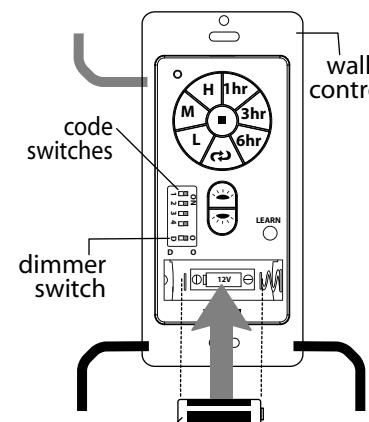

Fig. 7
- B. Use a small screwdriver or ballpoint pen to set code switches on the wall control by sliding them firmly to on or off / left or right position. (Do not use factory setting/position). (See Fig. 7)
- C. The dimmer switch (labeled D and O) has been pre-set to the "ON" position (D). If you do not wish to have dimming capability or are using bulbs that are not capable of being dimmed, please move the switch to the "OFF" position (O). (See Fig. 7)
- D. Install one 12-volt battery (included) in wall control. (See Fig. 7)